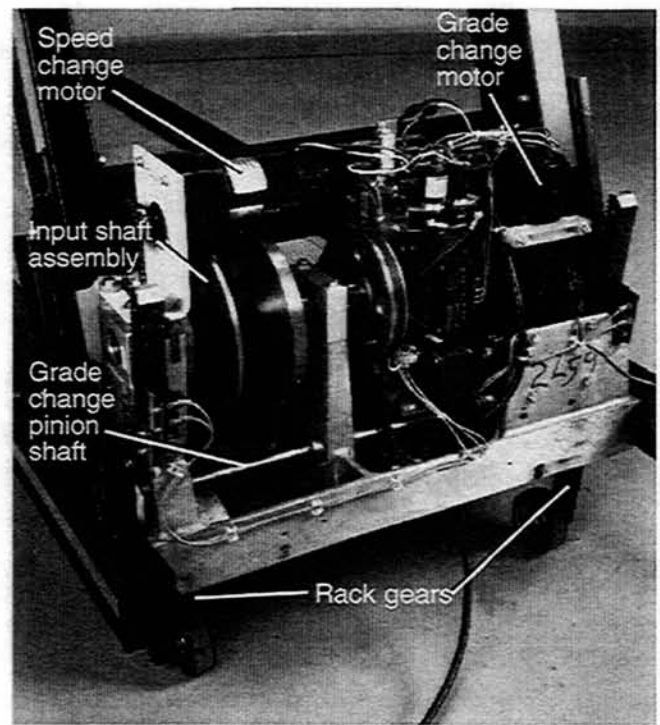

Figure 3-12. Input Shaft Assembly
1. Remove the treadmill hood as described on page 3-1. Figure 3-12 on page 3-7 shows the input shaft assembly.